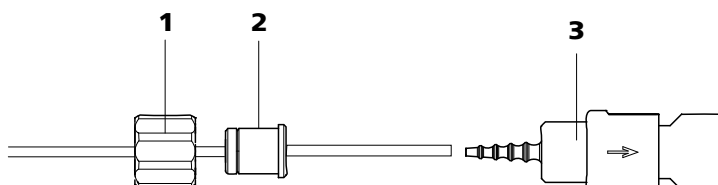

Figure 32 Install pump tubing connection with filter
- **Case A:** a 6.2744.180 pump tubing connection **with filter** (see figure 32, page 57) or